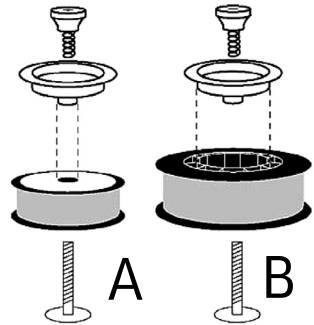

Fig. 5
- Four Inch Wire Spool** - Install the drive brake hardware on the top of the spool of wire, as shown in Fig. 5-A.
- Eight Inch Wire Spool** - Install the spindle adapter and drive brake hardware, as shown in Fig. 5-B.